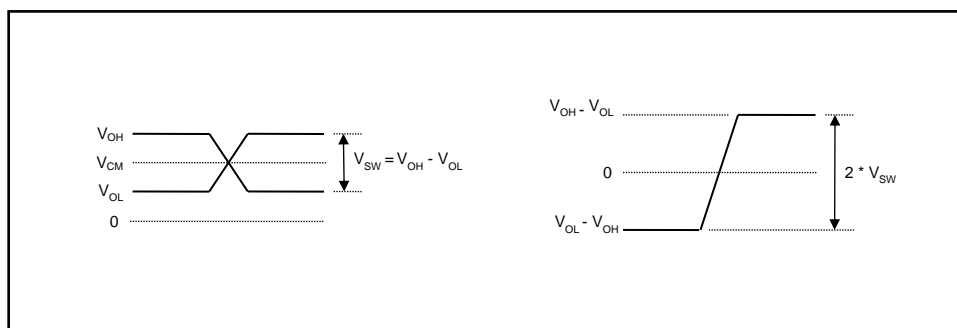

Figure 38. Differential Output Voltage Levels
**Output differential swing is calculated as $V_{SW} = V_{OH} - V_{OL}$. It should not be confused with $V_{SW} = 2 * (V_{OH} - V_{OL})$ used in some datasheets. Please refer to Figure 38.